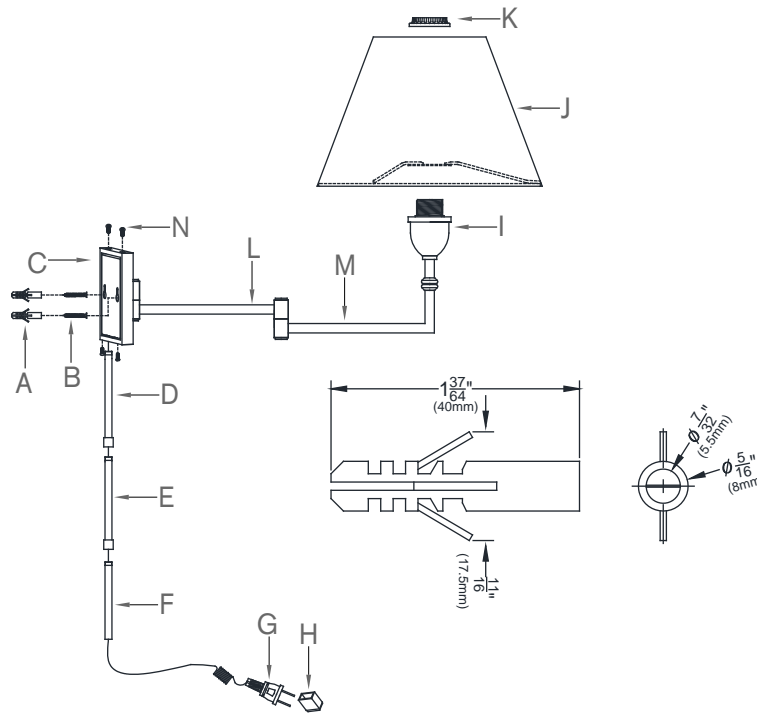
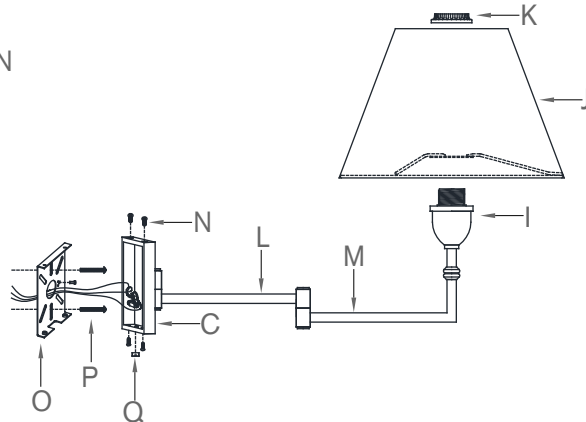

Fig. 1
Fig. 2
*** (PORTABLE ASSEMBLY) *** (See Fig. 1)
2. Screw threaded nipple of cord cover (D) into bottom threaded opening of fixture base (C). Thread cord cover (E) into cord cover (D) and thread cord cover (F) into cord cover (E) by hand.
3. Remove the key hole mounting plate from fixture base (C) by removing side screws (N). Put this plate on the wall where your desired install, mark the key hole position on the wall with a pencil. Attach the plate to the fixture base (C) and secure with side screws (N).
4. Drill two 8 mm holes in the wall, the holes should be big enough to be accommodated with plastic anchors (A). Install plastic anchors (A) into the holes in the wall.
5. Insert wood screws (B) into plastic anchors (A), make sure screwhead with 1/8" threads are visible.
6. Hook fixture (C) onto both screws (B).
7. Remove socket ring (K) from socket (I). Attach shade (J) onto socket (I) and secure socket ring (K).
9. Remove plastic cover (G) from plug (H).
*** (HARD WIRE INSTALLATION) *** (See Fig. 2)